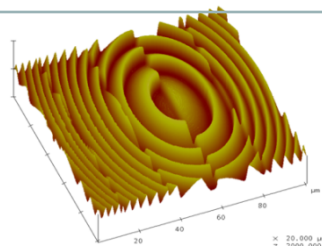

Figure 2. Diffractive optical devices
- Diffractive optical structures for spectrometer gratings and other computer generated holograms (Fig 2)